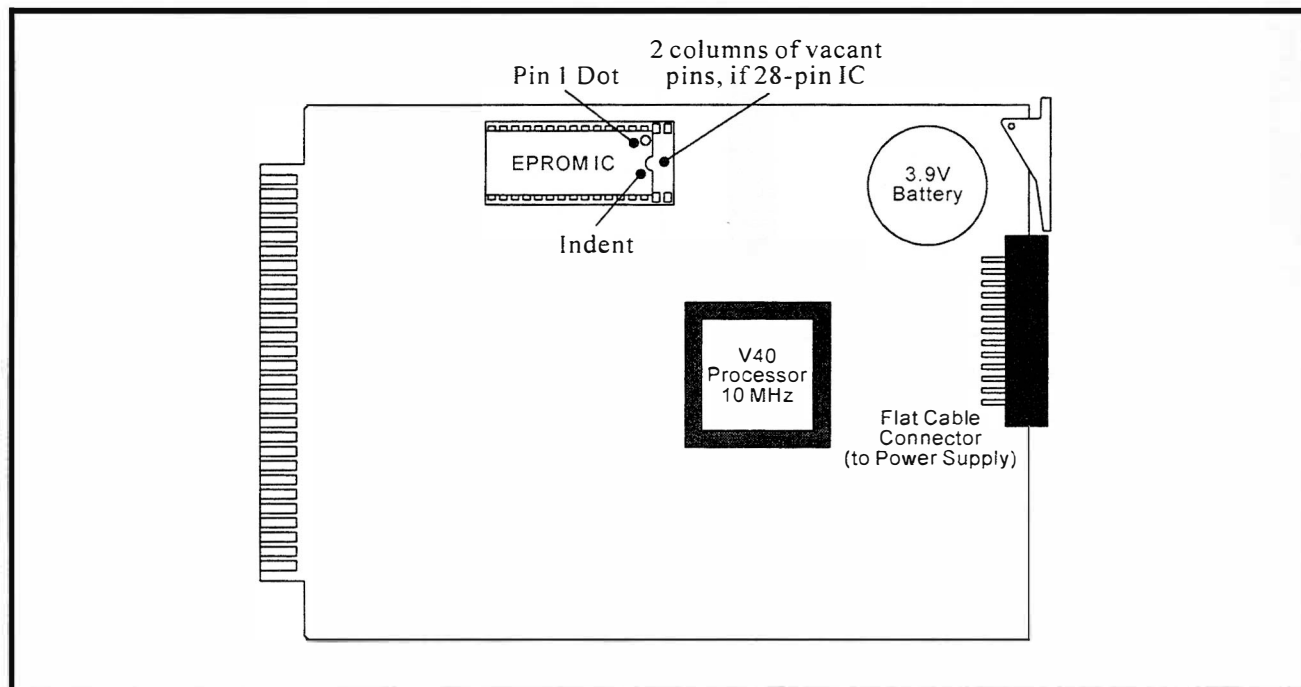

Figure 10
- Using a small, flat-head screwdriver remove the existing EPROM IC from its socket. Carefully review Figure 10 for the location of the correct IC.
- Insert the new, updated EPROM in the vacated socket. The **small indentation** on the IC must be **facing to the right**. Some ICs will indicate Pin 1 with a small dot. In such cases the dot must be oriented towards the **upper right-hand corner** of the socket. The **two columns of pins at the extreme right edge** of the socket must be vacant if the EPROM is a twenty-eight pin IC. Refer to Figure 10.